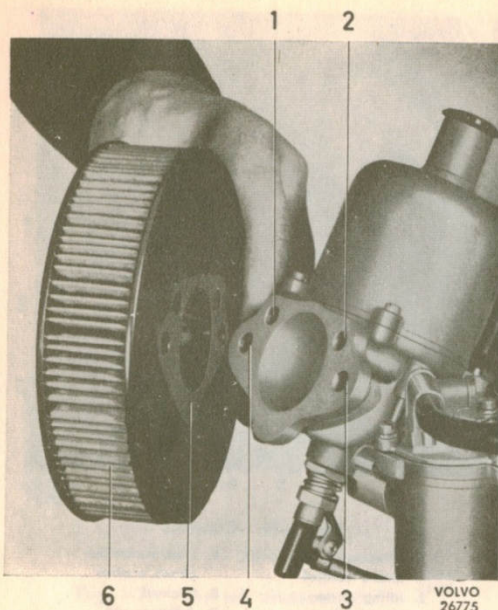

Fig. 1-80. Changing an air cleaner
2. Make sure that the gaskets are turned the right way, see Fig. 1-80, and fit the new air cleaners.